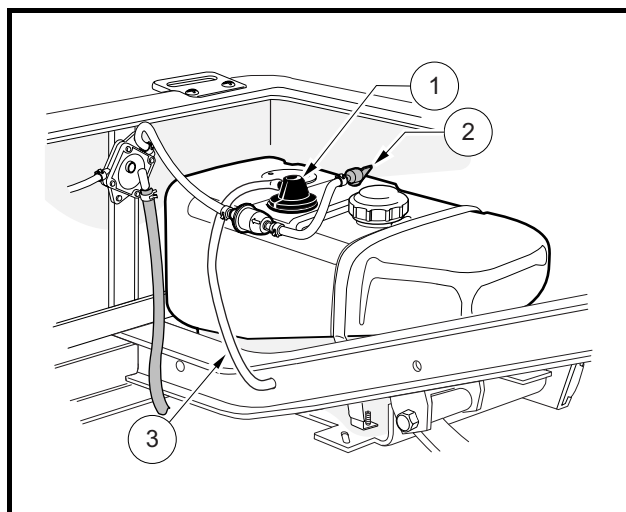

Figure 16-17 Fuel Tank
- If the vehicle has an all-weather enclosure installed, be sure the fuel tank is properly vented as shown (Figure 16-17, Page 16-24).